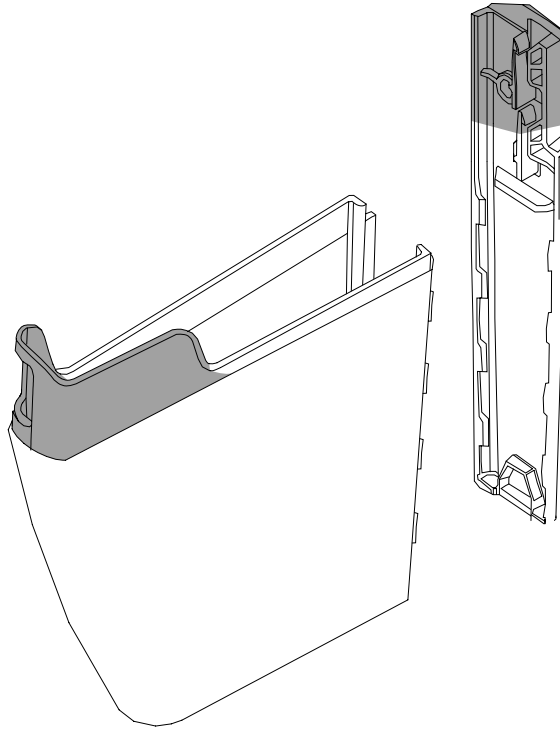

Figure 7. Areas used for holding the cable cover parts during painting
7. Use a clamp or hook for holding the cable cover and the cable cover support during painting. See Figure 7 for areas on which to place the clamp.